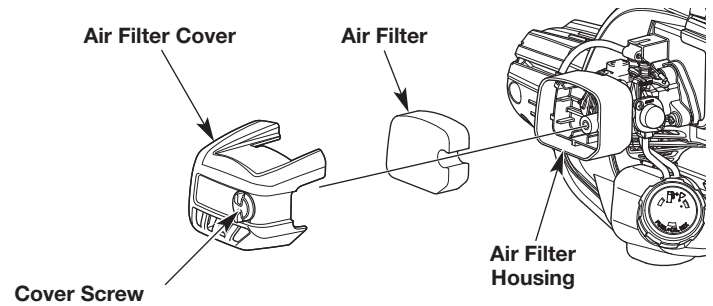

Fig. 21
1. Open the air filter cover by unscrewing the cover screw (Fig. 21).
2. Remove the air filter from the air filter housing (Fig. 21).
6. Reinstall the air filter in the air filter housing (Fig. 21).